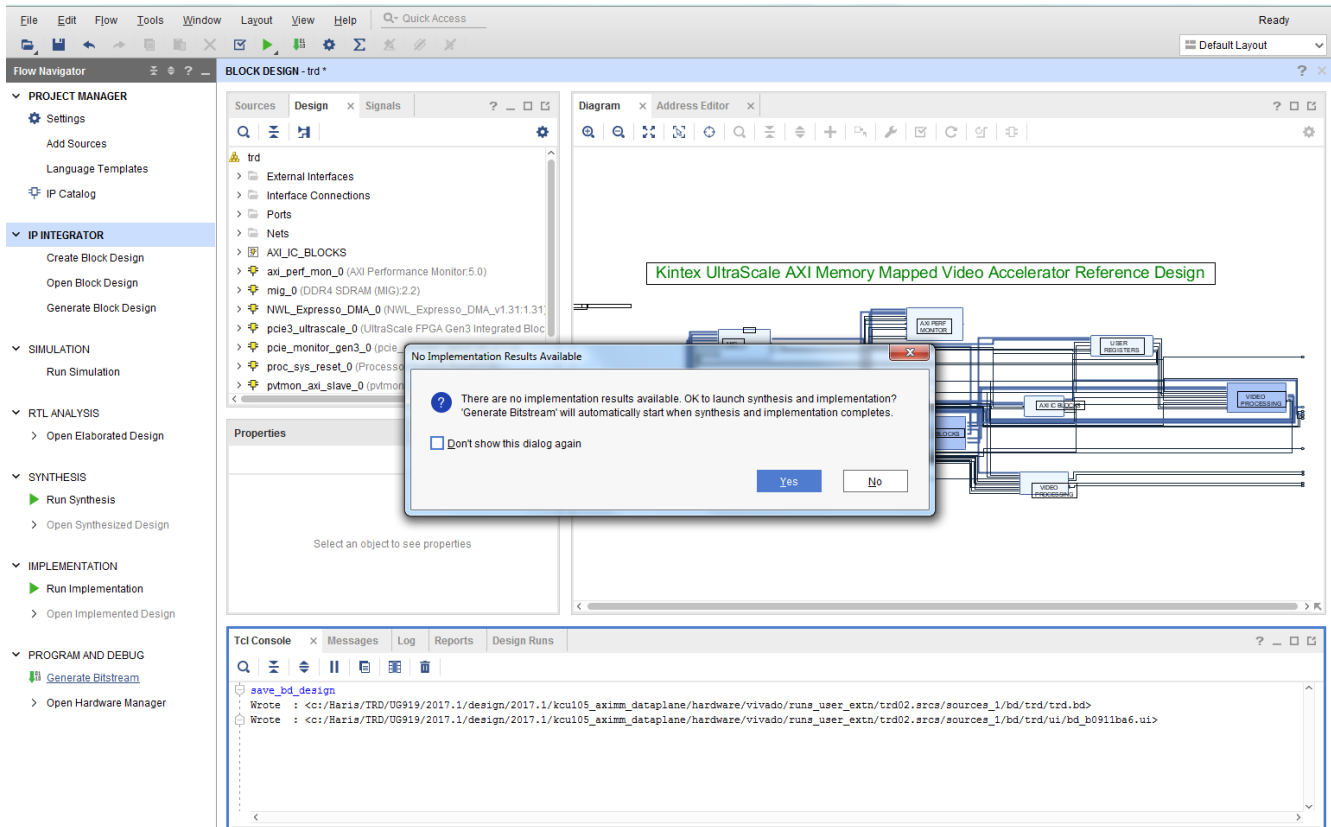

Figure 4-4: User Extension Design – Generate Bitstream
- In the Flow Navigator panel, click the **Generate Bitstream** option which runs synthesis, implementation, and generates the bit file (see Figure 4-4). The generated bitstream can be found under the following directory: